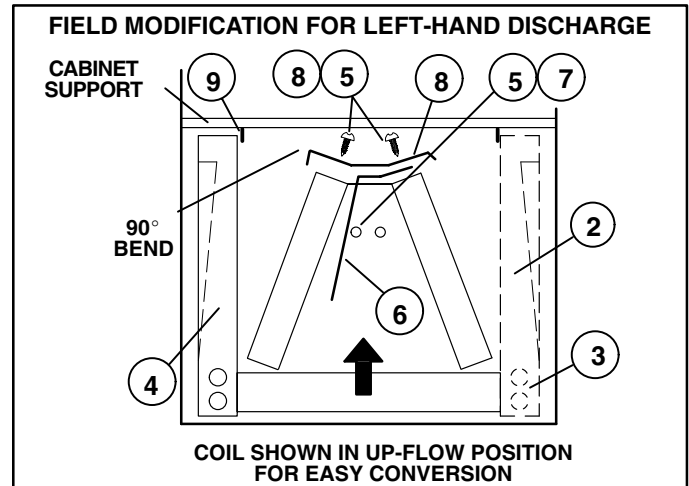

FIGURE 20
- 5- Remove screws from top cap. Remove horizontal drip shield screw located in the center of the back coil end seal. See figure 20.
- 8- Rotate top cap 180° front to back and align with unused screw holes. Holes must align with front and back coil end plates. Note that top cap has a 45° bend on one side and 90° bend on the other. **The 90° bend must be on the same side as the horizontal drain pan.** See figures 20 and 21.
- 9- From the upflow position, replace coil assembly. Then flip cabinet 90° to the left and set into place. Replace coil assembly. Secure coil in place by bending down tab on cabinet support rail. See figures 20 and 22.